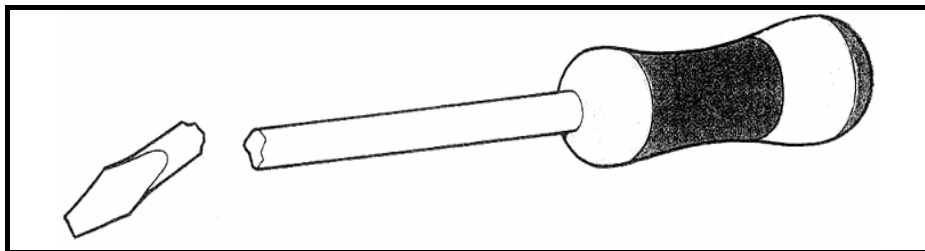

FIGURE 4.2
- 4.2 The screw driver shown in FIGURE 4.2 below snapped during use. Explain why the screw driver snapped by referring to the properties of materials. Give a reason for your answer.